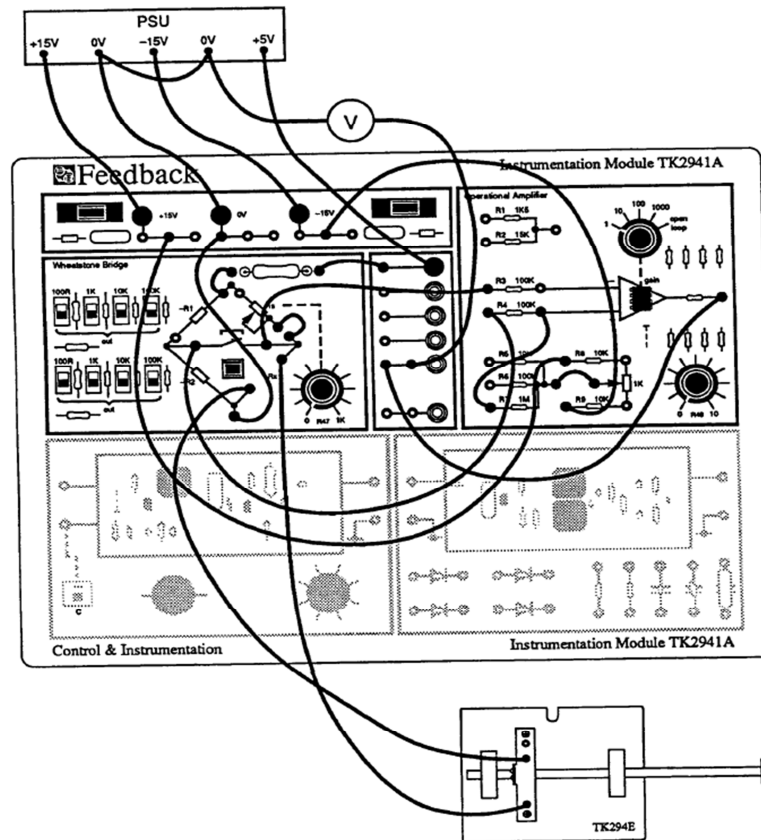

Figure 4.3: Strain Gauge
- Connect the circuit shown in figure 4.3